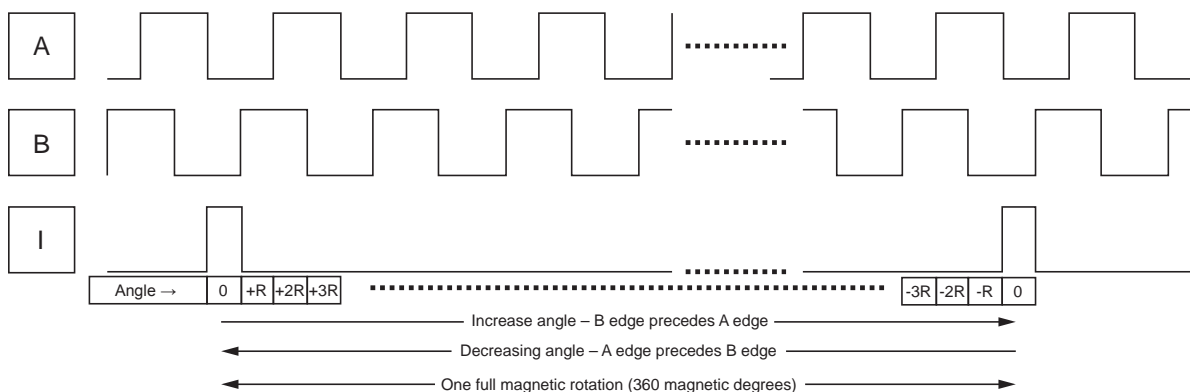

Figure 5: One Full Revolution
The AAS33001 offers an incremental output mode in the form of quadrature A/B and Index outputs to emulate an optical or mechanical encoder. The A and B signals toggle with a 50% duty cycle (relative to angular distance, not necessarily time) at a frequency of $2N$ cycles per magnetic revolution, giving a cycle resolution of $(360 / 2^N)$ degrees per cycle. B is offset from A by $1/4$ of the cycle period. The I signal is an index pulse that occurs once per revolution to mark the zero (0) angle position. One revolution is shown in Figure 5.